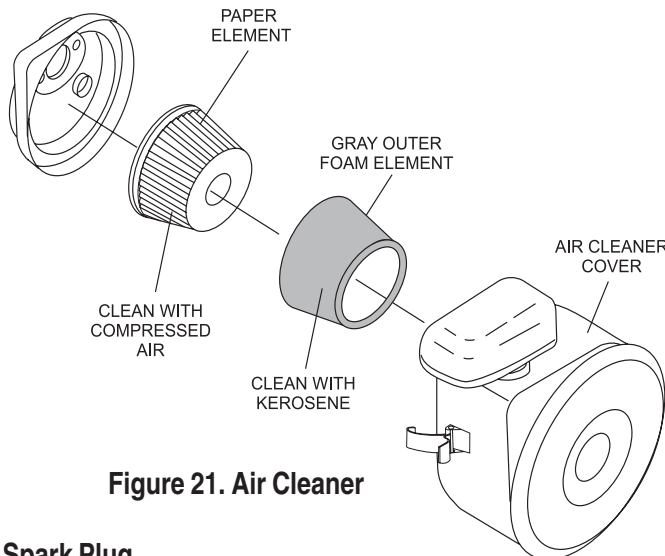

Figure 21. Air Cleaner
1. Remove the air cleaner cover and foam filter element as shown in Figure 21.